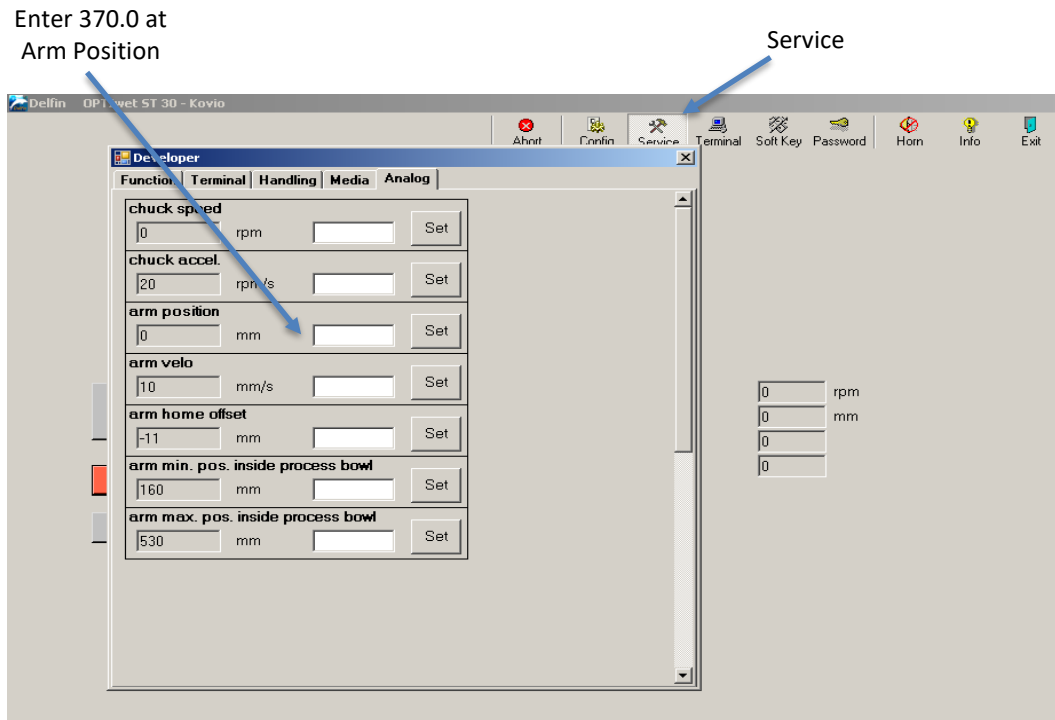

Figure 10 : Analog Page
- From the top menu, select Service. From the pop-up window, select Analog. See Figure 10.
- Enter 370.0 at the arm position and then push the Set button. See Figure 10.